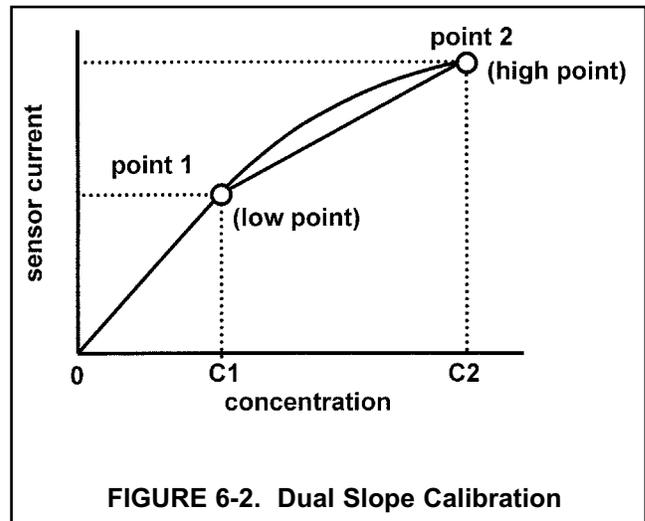

FIGURE 6-2. Dual Slope Calibration
Figure 6-2 shows the principle of dual slope calibration. Between zero and concentration C1, the sensor response is linear. When the concentration of chlorine becomes greater than C1, the response is non-linear. In spite of the non-linearity, the response can be approximated by a straight line between point 1 and point 2.
Adjust the concentration of chlorine until it is near the upper end of the linear response range of the sensor (pt1 in Figure 6-2).
13. Adjust the concentration of chlorine until it is near the top end of the range (pt2 in Figure 6-2).